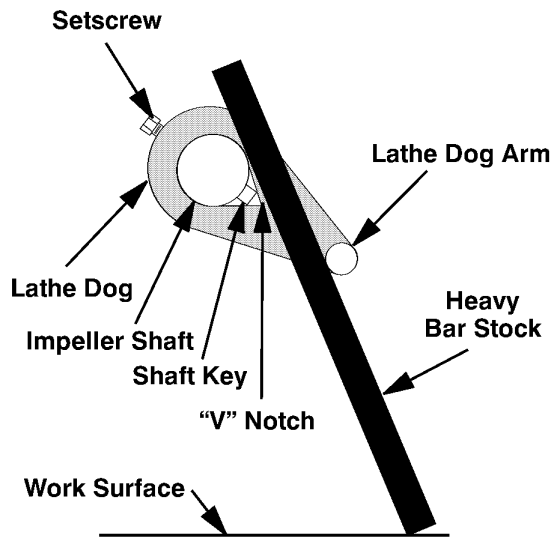

Figure 2. Loosening Impeller
Remove the hardware (48 and 49). If removed, install the shaft key (25). See Figure 2 and install a lathe dog on the drive end of the shaft (26) with the "V" notch positioned over the shaft keyway. Position a piece of heavy bar stock between the arm of the lathe dog and the work surface to block shaft rotation. **Use caution** not to damage the shaft or keyway.